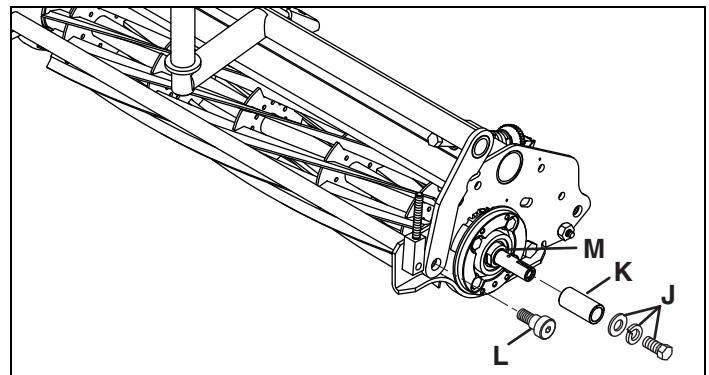

Figure 3
3. Block reel with a piece of wood, remove retaining hardware **(J)** and spacer **(K)**. See **Figure 3**.
4. Slide spacer **(K)** onto reel shaft. Adjust reel nut **(M)** as required so end of spacer is even with the end of reel shaft. Remove spacer and retain for future reel nut adjustment. See **Figure 3**.
5. Remove and discard lift yoke hardware **(L)** from both sides of the reel. Keep lift yoke in position. See **Figure 3**.